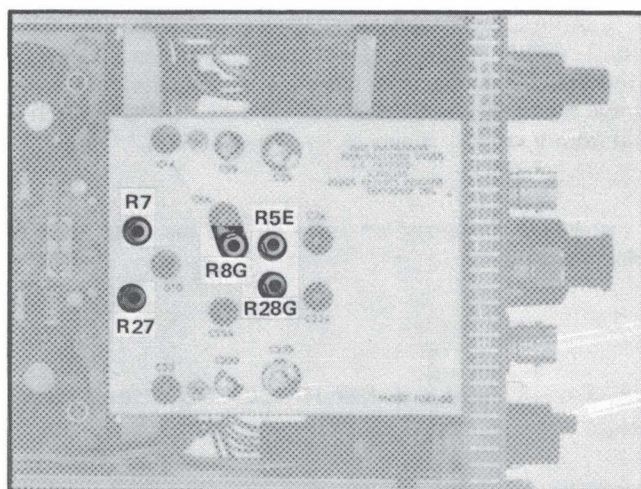

Fig. 5-6. Attenuator board adjustment locations used in the DC Input Resistance and Attenuator Ratio Adjustments procedure.
j. ADJUST—If a +4.500 volt reading is not obtained, adjust R7 (see Fig. 5-6) for a +4.500 volt indication on the Precision DC Voltmeter.
i. ADJUST—If a +4.500 volt reading is not obtained, adjust R27 (see Fig. 5-6) for a +4.500 volt indication on the Precision DC Voltmeter.
- j. ADJUST—If trace shift exceeds ± 0.3 division, leave the + INPUT Mode switch in the DC position and adjust R8G (see Fig. 5-6) so that the trace is within the given tolerance. Recheck for no trace shift as the + INPUT switch is set from V_C to DC. If necessary, readjust R8G.
f. ADJUST—If the tolerance is exceeded, leave the + INPUT Mode switch in the DC position and adjust R5E (see Fig. 5-6) for minimum trace shift.
g. ADJUST—If trace shift exceeds ± 0.3 division, leave the — INPUT Mode switch at DC and adjust R28G (see Fig. 5-6) for minimum trace shift.